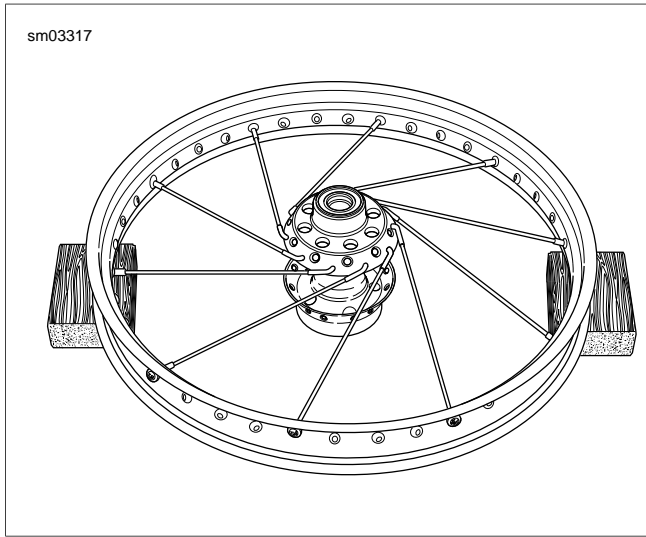

Figure 2-46. Lower Row Spokes Spaced to Every 4th Hole
- See Figure 2-46. Install the rest of lower row spokes in every fourth hole.